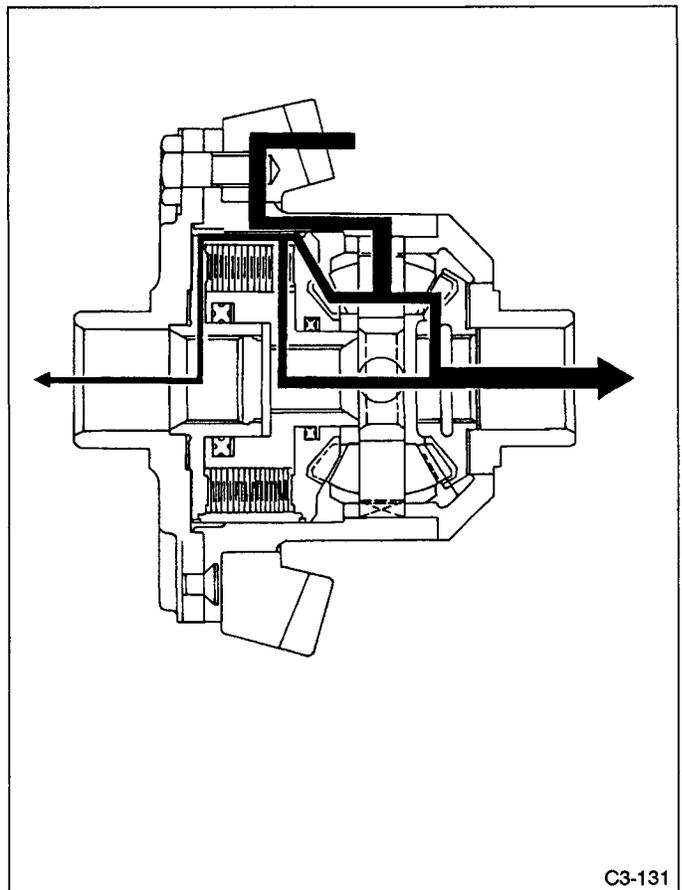

Fig. 7
2) When right and left wheels turn at different speeds. When a speed difference occurs between the right and left wheels, the VC housing and VC hub turn relatively at the same speed difference as that of the rear drive shaft. Because of the shearing force caused in the silicon oil, a differential torque is generated, which controls differential operation (idle rotation). For example, if the left wheel turns idle due to a difference in the road resistance, a speed difference occurs between the right and left wheel. Since the VC is installed between the right and left wheels, a differential torque is generated in the VC corresponding to this speed difference, and this differential torque is transferred from the left wheel to the right wheel. Accordingly, a greater driving force is transferred to the right wheel which is rotating at a lower speed as shown in Figure 7.